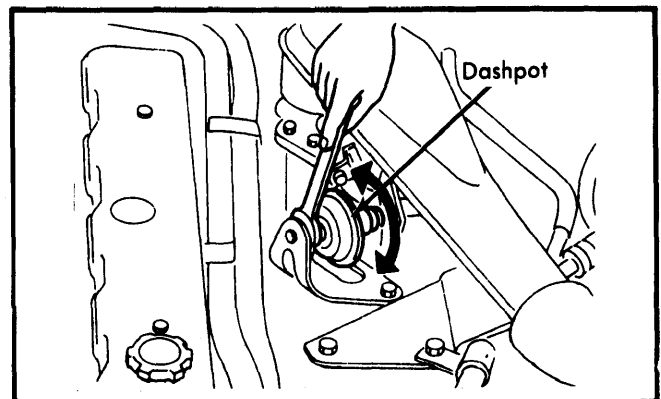

Fig. 3 Dashpot Adjustment
- 2) Hold throttle lever to maintain engine speed at 1280-1350 RPM. Adjust dashpot so that control lever tip contacts dashpot tip. See Fig. 3. Tighten dashpot lock nut.